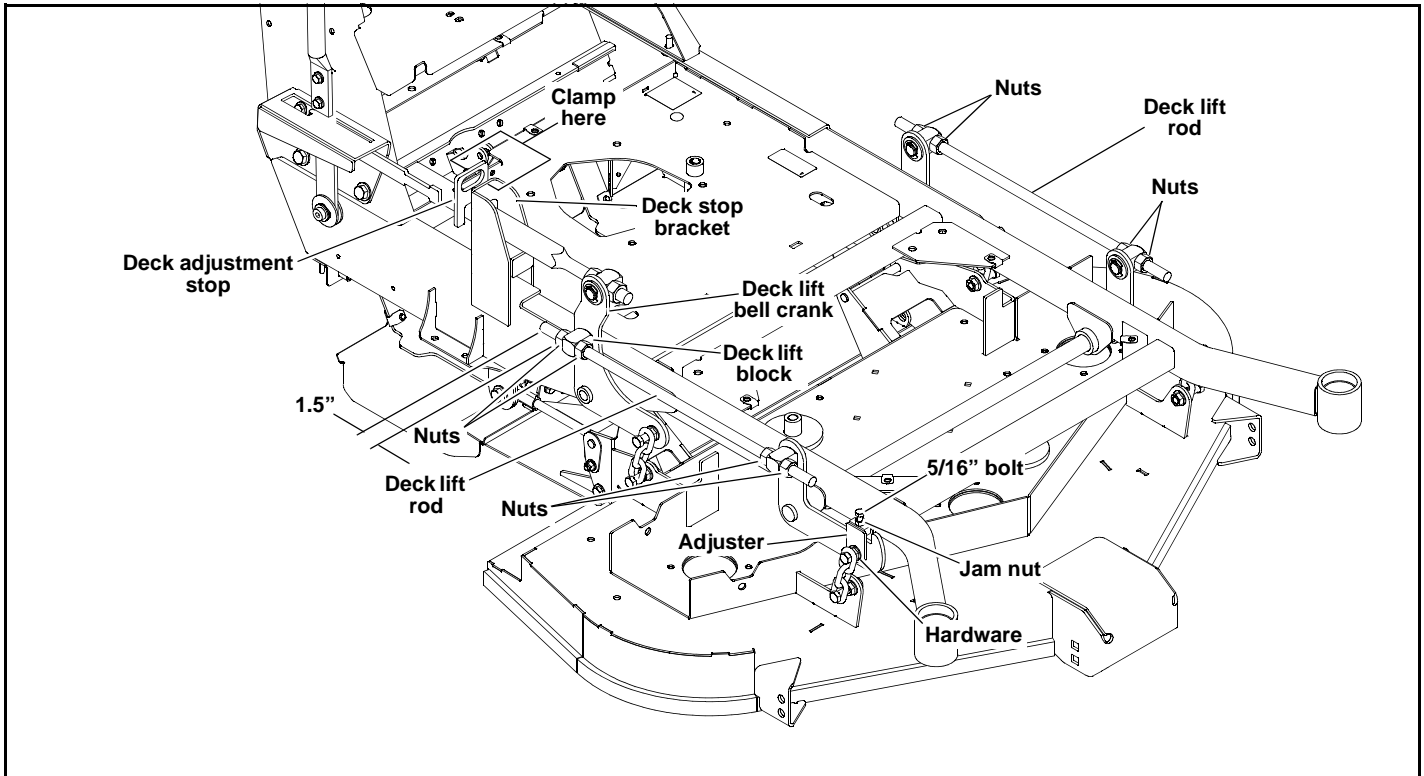

Figure 6-6
4. Place the height stop in the 3" (7.62cm) hole, with the flat side of the height adjusting stop against the deck stop bracket. Clamp the height adjusting stop against the deck stop bracket. This will assure that the height will not move during the setting process. Figure 6-6
5. Loosen all nuts on the deck lift threaded rods and the hardware on the adjuster (on the right front), until **all** the deck lift chains are loose, **and** the deck is sitting tightly on all four blocks. Figure 6-6
6. Loosen the two nuts on the front of height indicator bar so that the bar has some play. Figure 6-6
8. Set the amount of threads protruding on the deck lift rod from the lift block at approximately 1.50" (left & right side). Figure 6-6
9. Jam both nuts against the block. Figure 6-6
10. Push or pull on the deck lift until the chain on the **right rear** just becomes tight, making sure that the deck stays tight against the deck support block. Figure 6-6
11. While keeping the chain tight, tighten the nuts against the deck lift block on the height indicator. Figure 6-6
12. Jam nuts tightly together against the deck lift block. Figure 6-6
14. Make sure that there is still slack in the chain. If not, loosen the two nuts on the block holding the threaded rod until there is slack in the deck lift chain. Figure 6-6
15. Tighten the appropriate nut until the chain just becomes tight, making sure that the deck stays tight against the deck support blocks. Figure 6-6
16. Tighten the other nut on the opposite side of the block, and jam them tightly together against the block. Figure 6-6
18. Loosen the 5/16" jam nut on the deck leveler yoke, and back the 5/16" adjuster bolt out to allow the deck leveler yoke to move up and down freely. Figure 6-6
19. Be sure that the deck adjuster is free to move up and down. Figure 6-6
20. Tighten the adjuster bolt until the chain just becomes tight, making sure that the deck stays tight against the deck support blocks. Figure 6-6
21. Tighten the adjuster bolt jam nut to prevent the deck adjuster from moving. Figure 6-6
22. Tighten the hardware holding the chain and deck adjuster onto the deck lift arm. Figure 6-6
24. Make sure that there is still slack in the chain. If not, loosen the two nuts on the block holding the threaded rod until there is slack in the deck lift chain. Figure 6-6
25. Tighten the appropriate nut until the chain just becomes tight, making sure that the deck stays tight against the deck support blocks. Figure 6-6
26. Tighten the other nut on the opposite side of the block, and jam them tightly together against the block. Figure 6-6